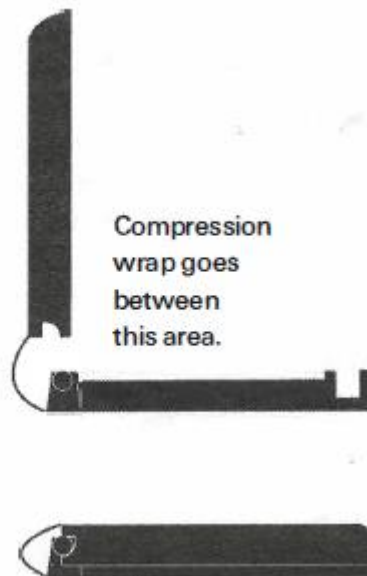

Figure 12
23. Continue wrapping until the compression wrap extends at least 2" past the end of the sheet. Use the enclosed clip to secure the compression wrap. Wrap two laps of compression wrap over the clip and lock in place. (Figure 12). Cut off excess compression wrap 2" from the clip.